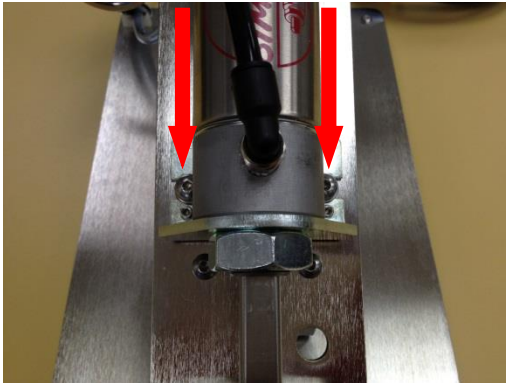

Figure 3.3.4
- Now remove the two 6x12mm screws holding the front cylinder mount bracket using a 3mm hex wrench. *Figure 3.3.4*. Rotate the cylinder backwards until it stops in the semi-vertical position. *Figure 3.3.5*